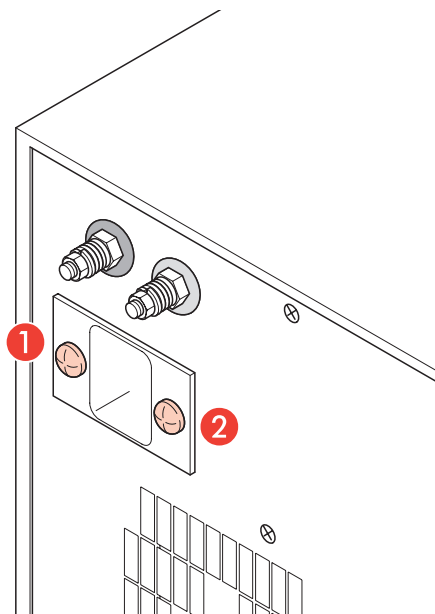

Fig. 5
1. Unscrew screws **1** and **2** shown in figure 5.